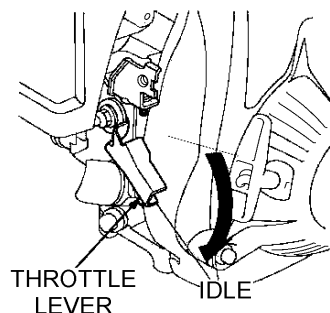

Figure 16. Throttle Lever (Idle)
- Move the throttle lever to the **IDLE** position (See Figure 16) and run the engine for three minutes at low speed.